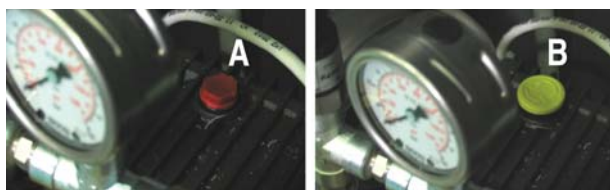

Fig. 2.a
- replace the TOP oil cap ((Fig. 2.a, A), used for transport only, with the CAP WITH THE VENT HOLE (Fig. 2.a, B) used in normal operation;